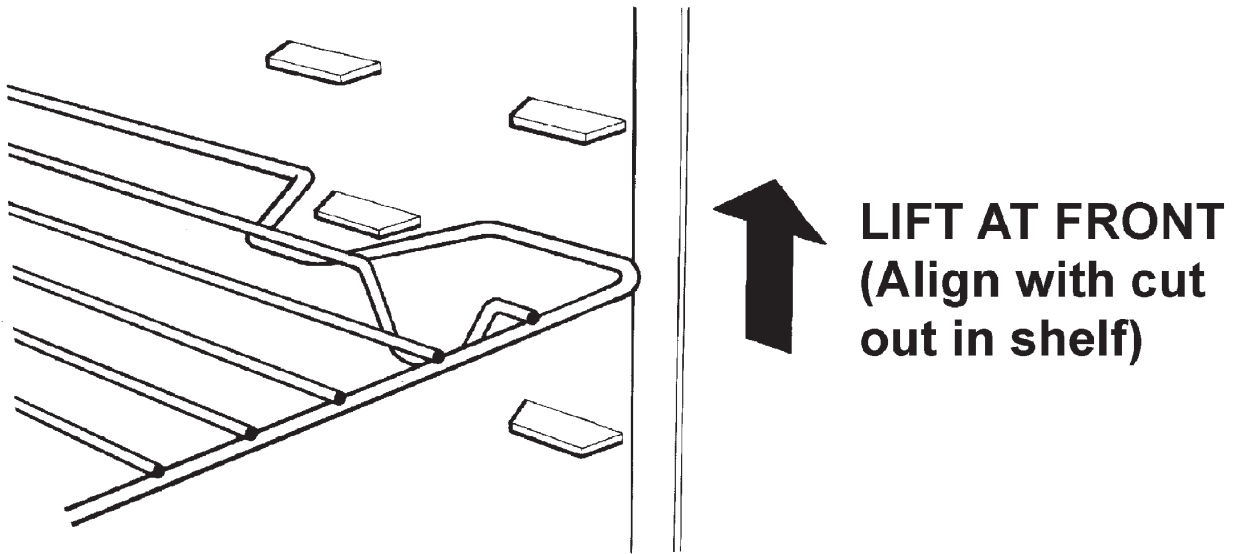

Fig. 13
- Use rawplugs and screws supplied to fix the backplate to the wall (Fig. 13).